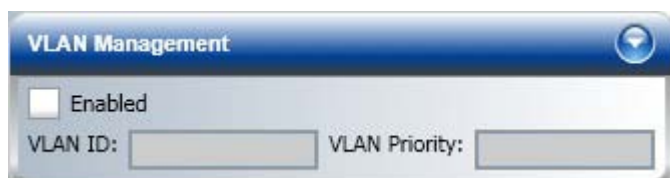

Figure 6-1: VLAN for Management
1. In the window of Figure 6-1, check the **Enabled** box.